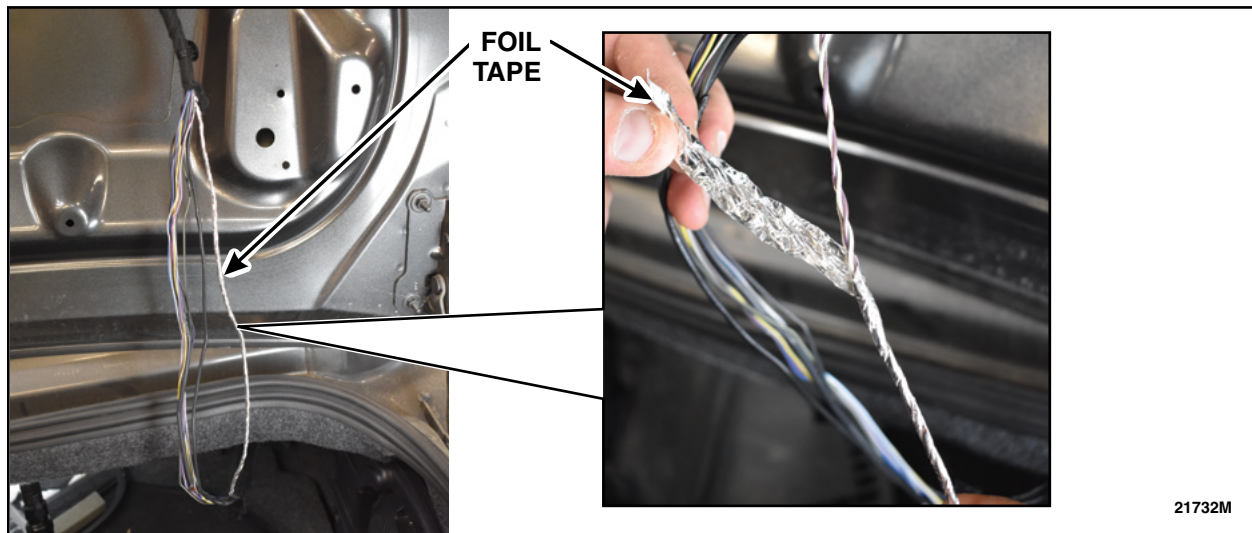

FIGURE 14
18. Carefully unwrap the foil tape on the twisted wires the full length of the exposed wiring. See Figure 14.
See Figure 14.